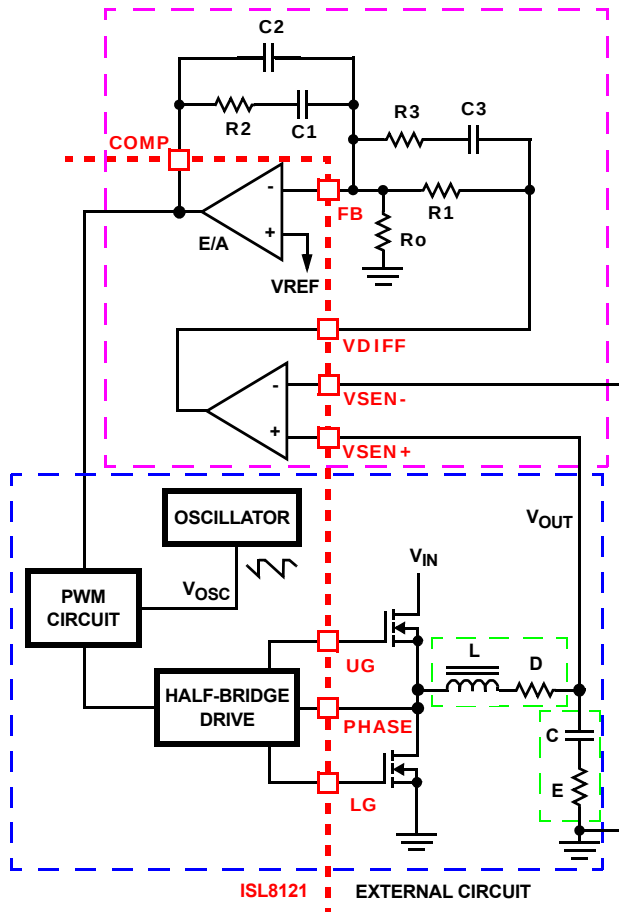

FIGURE 24. VOLTAGE-MODE BUCK CONVERTER COMPENSATION DESIGN
Figure 24 highlights the voltage-mode control loop for a synchronous-rectified buck converter, applicable, with a small number of adjustments, to the multi-phase ISL8121 circuit. The output voltage (V_{OUT}) is regulated to the reference voltage, V_{REF} , level. The error amplifier output (COMP pin voltage) is compared with the oscillator (OSC) modified saw-tooth wave to provide a pulse-width modulated wave with an amplitude of V_{IN} at the PHASE node. The PWM wave is smoothed by the output filter (L and C). The output filter capacitor bank's equivalent series resistance is represented by the series resistor E.
1. Select a value for $R1$ (1kΩ to 5kΩ, typically). Calculate value for $R2$ for desired converter bandwidth (F_0). If setting the output voltage via an offset resistor connected to the FB pin, R_o in Figure 24, the design procedure can be followed as presented. However, when setting the output voltage via a resistor divider placed at the input of the differential amplifier, in order to compensate for the attenuation introduced by the resistor divider, the obtained $R2$ value needs be multiplied by a factor of $(R_p + R_s)/R_p$. The remainder of the calculations remain unchanged, as long as the compensated $R2$ value is used.